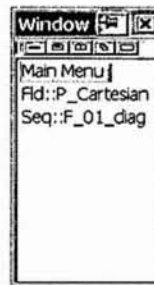

Figure 79. Windows Available List Window
- (9) To add axes labels to the plot, select the **2DplotAnno** object in the *F\_01\_diag* plot page. In the **Format** frame, toggle on the **Axis Labels** checkbox. In the **Labels** frame, type **Log Elapsed Time (hours)** for the **X Axis** label, and **Log Pressure Change (kPa) and Derivative** for the **Y Axis** label. Select the **Apply** button. For the Y axis labels to fit within the plot window, the left margin may need to be increased in the **2D-XY** object.
- (10) To change the title of the plot, select the **Title User Labels** object in the *F\_01\_diag* 2D plot page. Change the **Enter Title** text to **Standard Diagnostic**. Select the **Apply** button.
- (11) The **OptInfo Data Labels** object in the *F\_01\_diag* plot page will force the plot to be updated with each step of the optimization. By default, this label is not plotted (i.e. the **Plot** toggle is off).
- (12) To view the plot, select the plot window using the **Window→Seq::F\_01\_diag** command. Alternatively, select **Window→Window List** (or F11), which brings up a window containing a menu of all available windows, shown in figure 79.